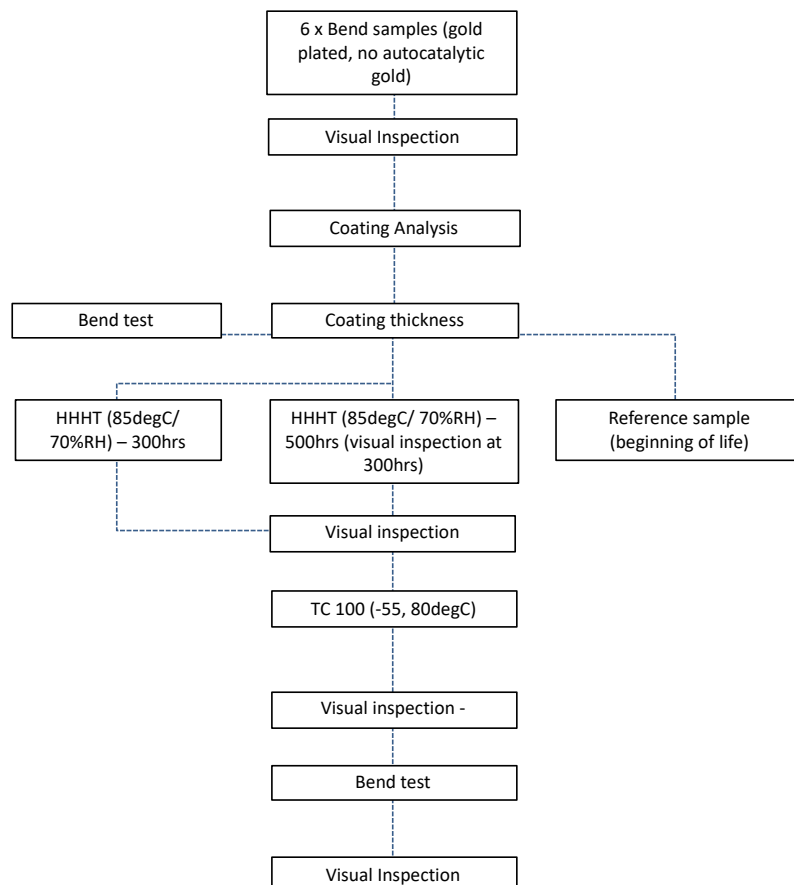

Figure A2-1 Bend Test Workflow for nickel- and gold-plated straight waveguide test pieces
1. Bend Test: Test of 6 x sample nickel- and gold-plated test pieces (comprising longitudinally-sectioned straight waveguide pieces as defined in Appendix 3) to verify the integrity and adhesion of the supplier nickel-plating and RAL gold-plating processes (Figure A2-1)